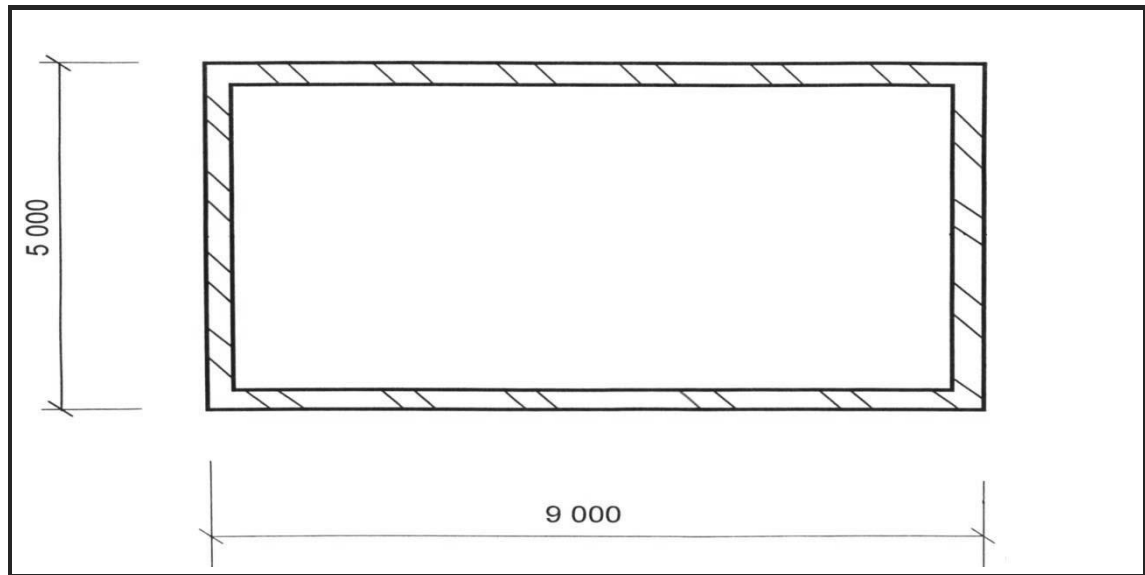

FIGURE 3.2
3.2 **FIGURE 3.2** below shows the floor plan of the foundation walls of a single room.